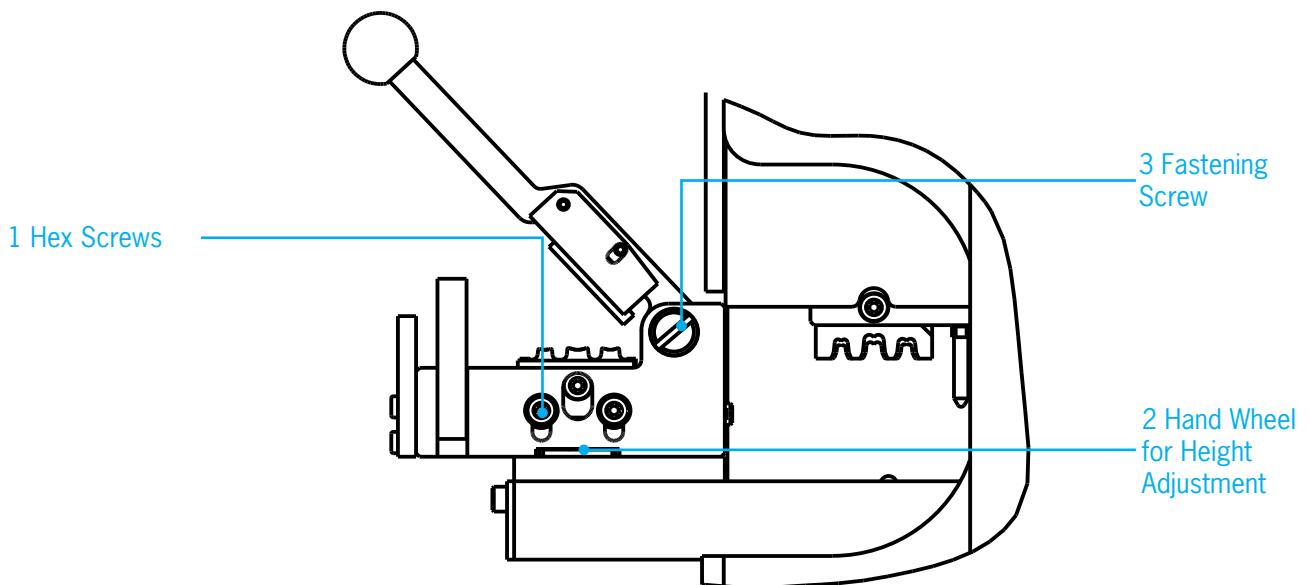

Fig. 6
- Loosen and remove the attachment bolts Fig. 6/3 (2 screw drivers are needed!)
- Replace the clamp lever and clamp the new lever under the latch, then reinsert and tighten the attachment bolt (The clearance and movement of the lever can be adjusted by loosening or tightening of the attachment bolt Fig. 6/3 (The desired flexibility of the lever is infinitely adjustable!)
- Loosen (but do NOT remove!) the two hex screws Fig. 6/1
- Adjust the height by turning the ribbed wheel underneath the two hex screws for height adjustments Fig. 6/2
- Tighten the hex screws Fig. 6/1